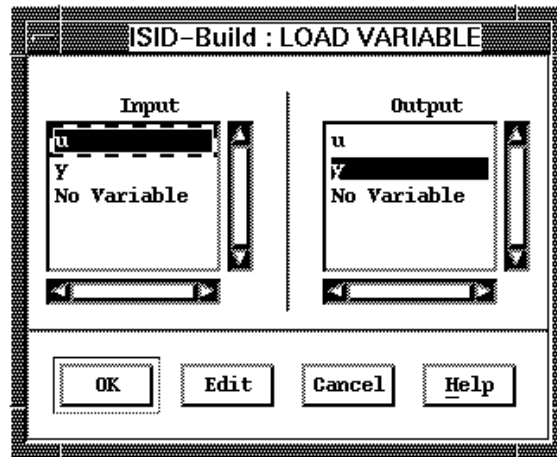

Figure 2.2 The “LOAD VARIABLE” window allows you to select the Xmath variables that serve as input and output.
3. As suggested in the message area at the bottom of the Chain window, select File → Load Data From Xmath → IO Data Record to load the tutorial data. Selecting this menu pops up the “LOAD VARIABLE” window in Figure 2.2.
The “LOAD VARIABLE” window allows you to select the Xmath variables that serve as input and as output. Take u as the input and y as the output. Click on the variable names to choose. Make sure the selected variables correspond to the selections in Figure 2.2, but do not press OK yet.
Now you have entered all information about the object you want to load (Xmath variables, names and units). Hitting the OK button of the “LOAD VARIABLE” window (Figure 2.2) loads the Xmath variables into a data object. The program now has to decide what to do with this newly created data object.
2. After you have cleared the chain, load the demo data of the file `demo_data` by selecting File → Load Data From Xmath → IO Data Record. Edit the channel names and units and the sampling time and unit as in Section 2.1 (Figure 2.3). After hitting the OK button in the “LOAD VARIABLE” window (Figure 2.2), a data box is created automatically. There is no “LOAD OPTIONS” window (as in the previous section) because the data can only be redirected to one place, namely a new data box.